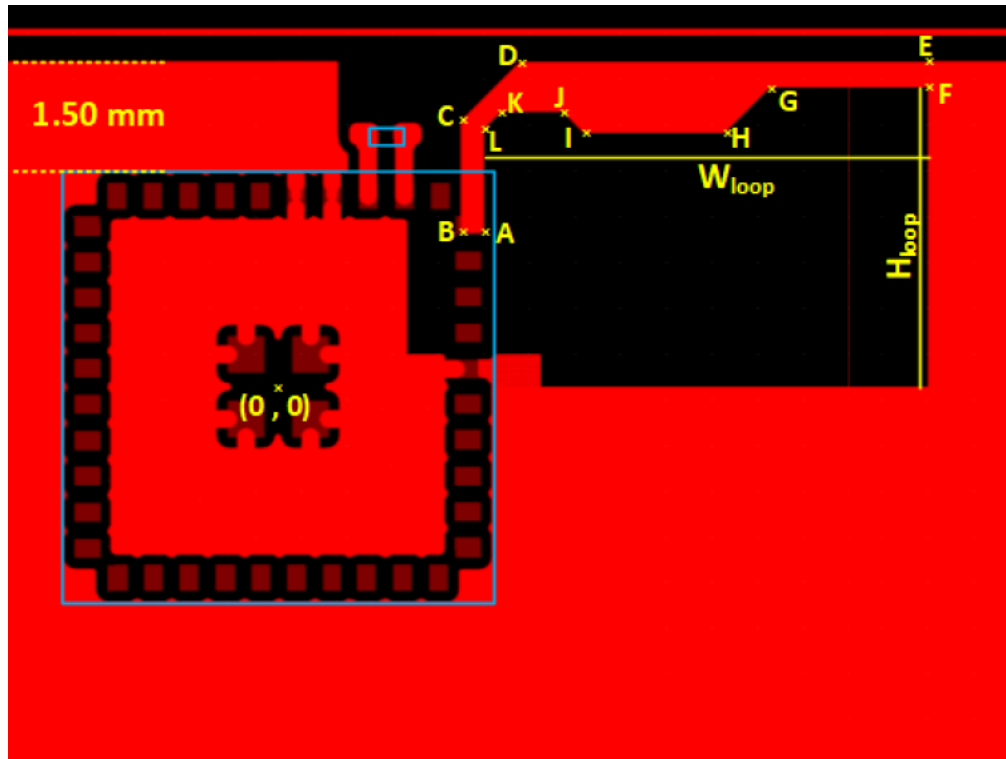

Figure 7.2. Antenna Layout With Coordinates
- Copy the exact antenna design from Figure 7.2 Antenna Layout With Coordinates on page 25 with the values for coordinates A to L given in Table 7.1 Antenna Polygon Coordinates, Referenced to Center of BGX220S on page 25.